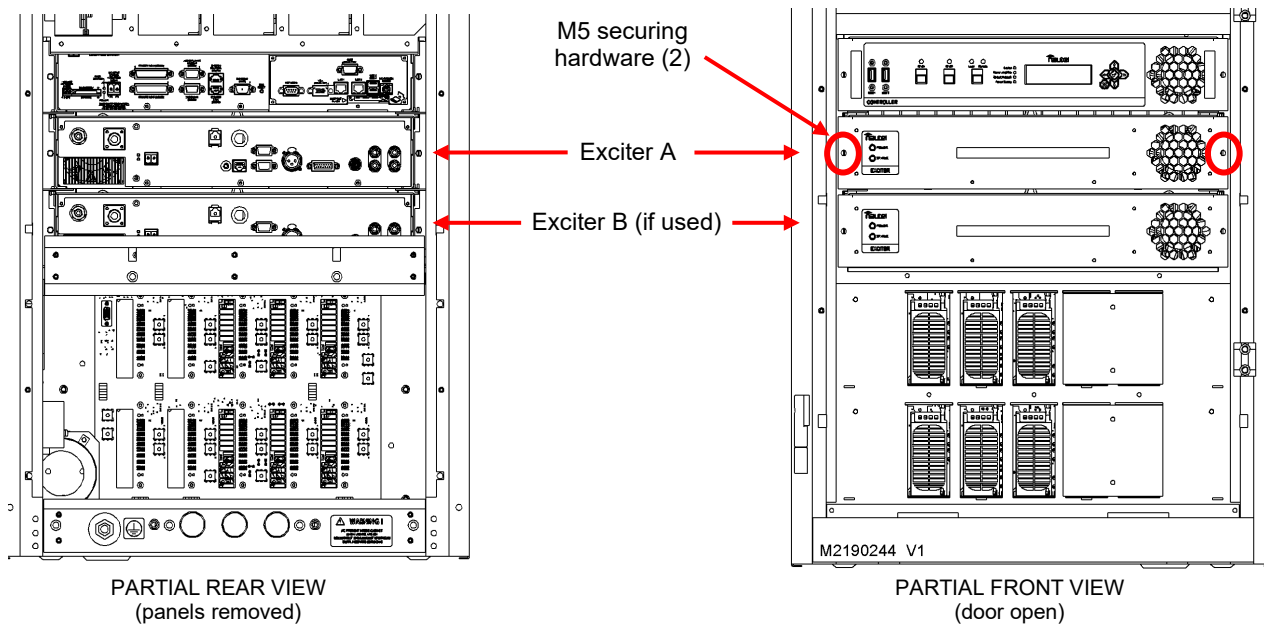

Figure 1: Exciter Locations (GV10/GV7.5 shown for reference)
- (b) Gain access to the front of the exciter (see Figure 1, right) by opening the front door. Gain access to the rear of the exciter (see Figure 1, left) by removing the upper, rear panel. For GV30N/GV30/GV40 and GV2-30N/GV2-30/GV2-40 models, remove the right-hand, upper, rear panel (as viewed from the rear).
- (d) From the front of the transmitter, use a # 2 Phillips screwdriver to remove the two M5 screws that secure the exciter to the transmitter (see Figure 1), and pull out the exciter. Retain the M5 screws.